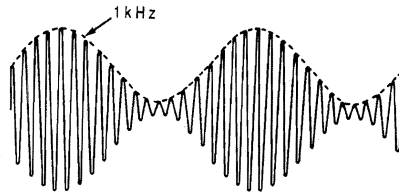

Figure 7-24
11. Set the oscilloscope TIME/CM to 0.5 milliseconds. Adjust the 1 kilohm potentiometer until the waveform at point A looks like Figure 7-24. You may need to adjust the trigger level control to lock the display in place. Notice that the envelope forms a 1 kilohertz sine wave.